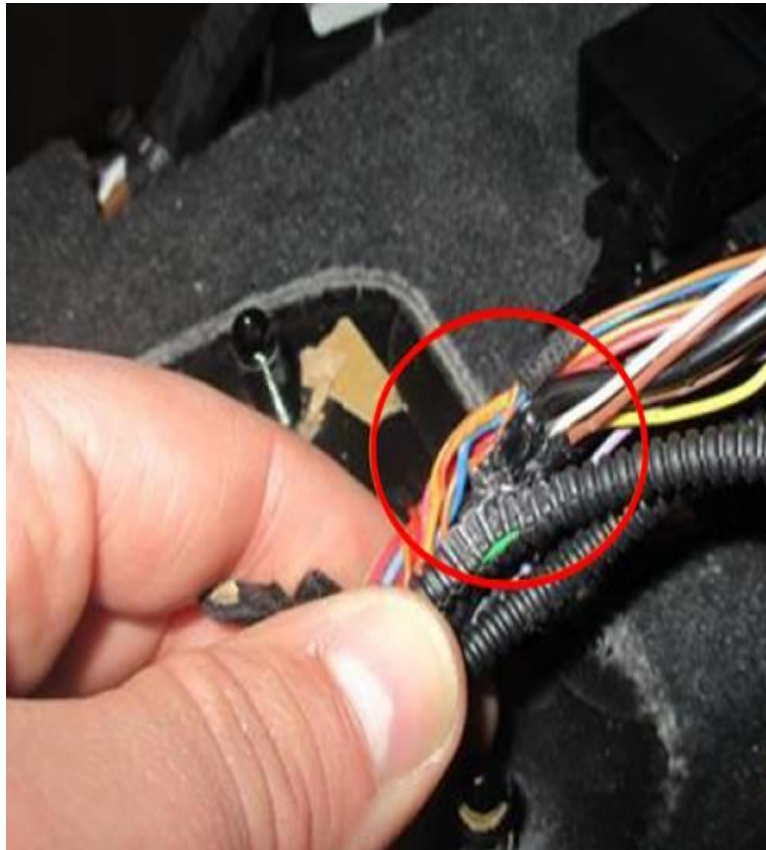

Figure 2. The harness is damaged during assembly.
3. If damage is found as shown in Figure 2, repair the damaged wires using VAS 1978B. Additionally, add the harness protection using the steps below.